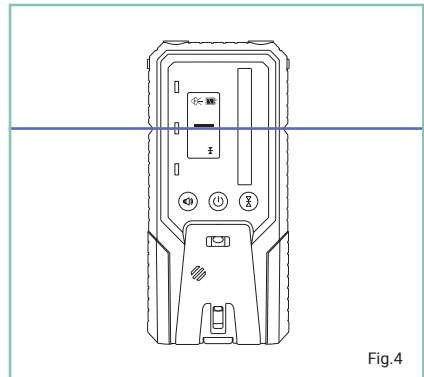
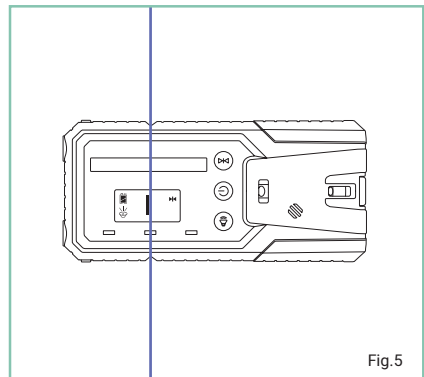

Fig. 4
Fig. 5
- Hold the detector upright for horizontal beams (Fig. 4). Rotate the detector 90° for vertical beams (Fig. 5).